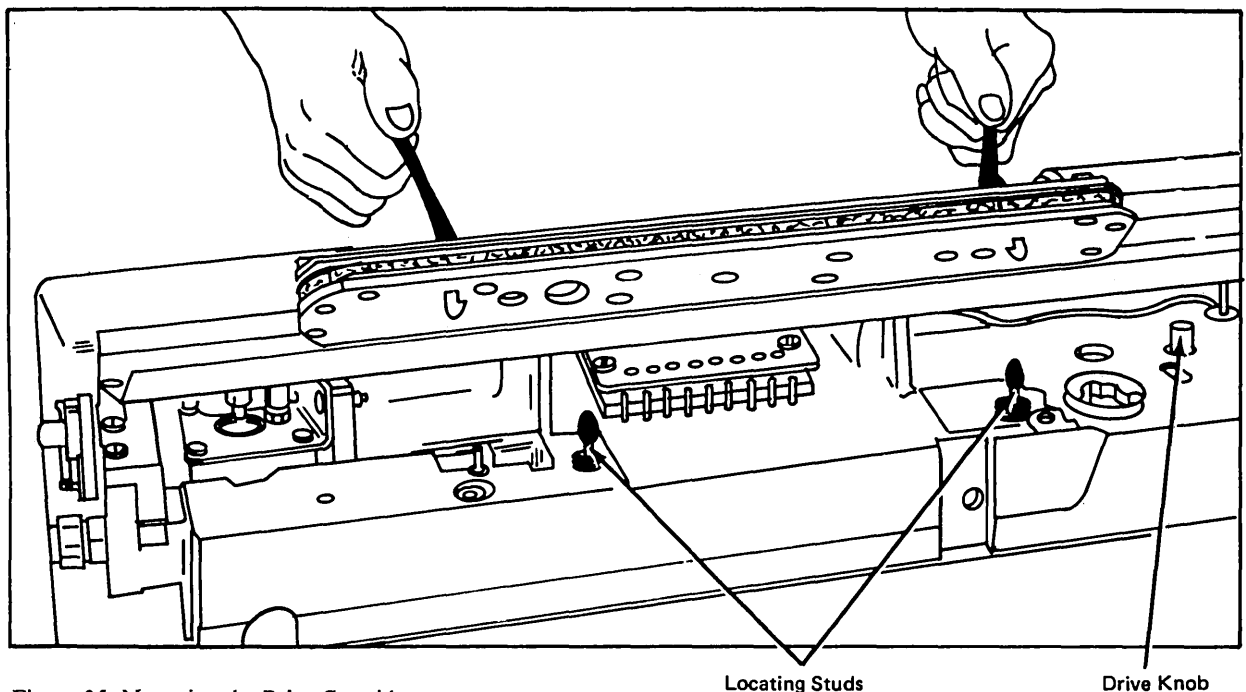

Figure 35. Mounting the Print Cartridge
4. Turn the drive knob (Figure 35) by hand until you hear the click of the drive key engaging in the slot in the drive gear. Lock the cartridge in place by returning the handles to the horizontal position.